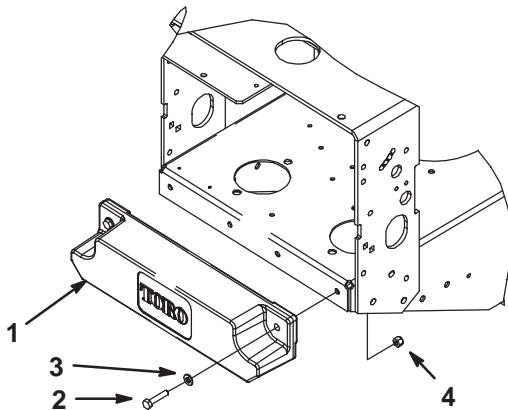

Figure 24
- The weight kit mounted in the **back** position is **optional** when a Tru-Trak® Sulky is not installed (Fig. 24).